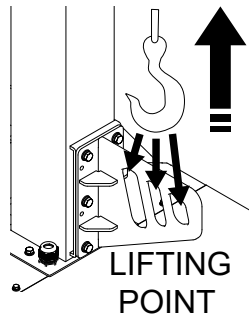

Figure 16. Lifting Point
1. Three lifting points are available with the cart (Figure 16).